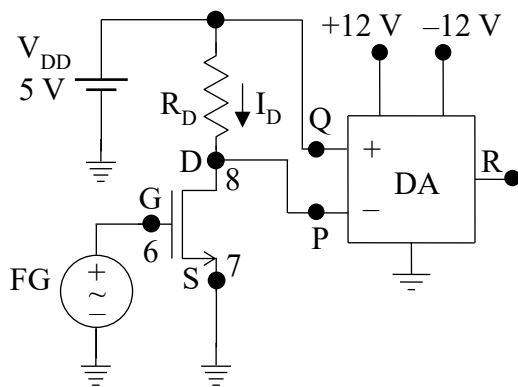

Figure E2a
- Set up the circuit shown in Fig. E2a with  $R_D = 1\text{ k}\Omega$ . The pin numbers for CD4007 are given in the figure.
- Set up the circuit of Fig. E2a with  $R_D = 100\text{ }\Omega$ . The pin numbers for CD4007 are given in the figure.
- Set up the circuit of Fig. E2a with  $R_D = 1 \text{ k}\Omega$ . The pin numbers for CD4007 are given in the figure.
Now, set up the circuit of Fig. E2a with  $R_D = 10 \text{ k}\Omega$ . Using the FG, apply an ac triangular pulse of 100 Hz frequency and peak-to-peak voltage from 0 V to 5 V.